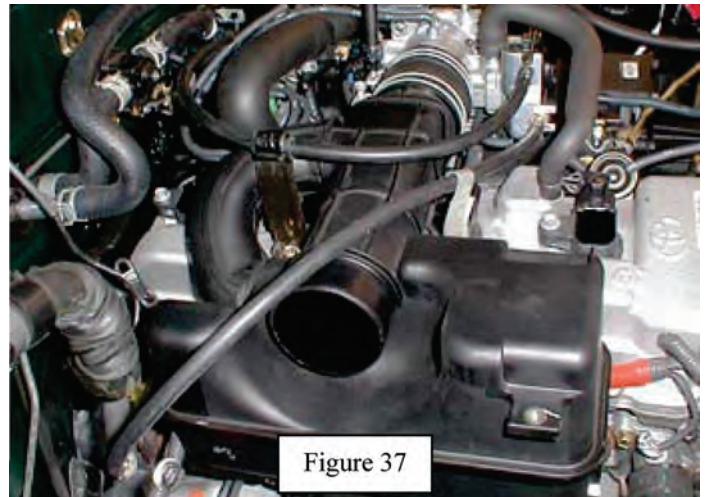

Figure 37
85. Re-install intake air connector onto throttle body. See Figure 37. Secure intake air connector-to-connector bracket using two OE nuts removed in Step 2. Torque nuts: 13 ft-lbs.